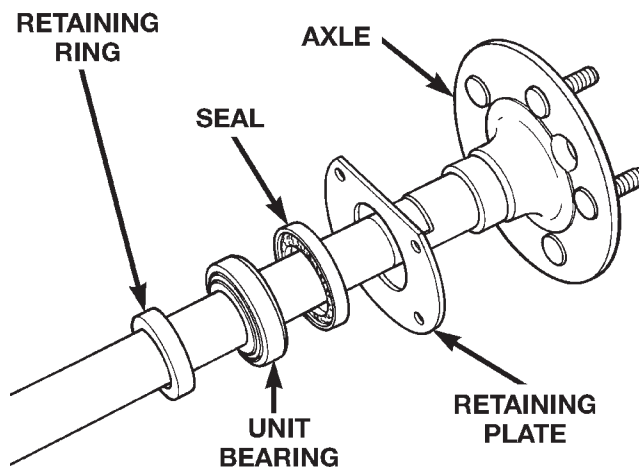

Fig. 15 Axle Bearing and Seal Components
- (2) Install retaining plate on axle (Fig. 15).
- (3) Apply a coat of multi-purpose grease on sealing surface of axle seal.
- (4) Install seal on axle with cavity away from retaining plate (Fig. 15).
- (5) Lubricate bearing with Mopar® Wheel Bearing Grease, or equivalent. Wipe excess grease from outside of bearing.
- (6) Slide bearing onto axle shaft with groove in outer surface toward seal (Fig. 15).